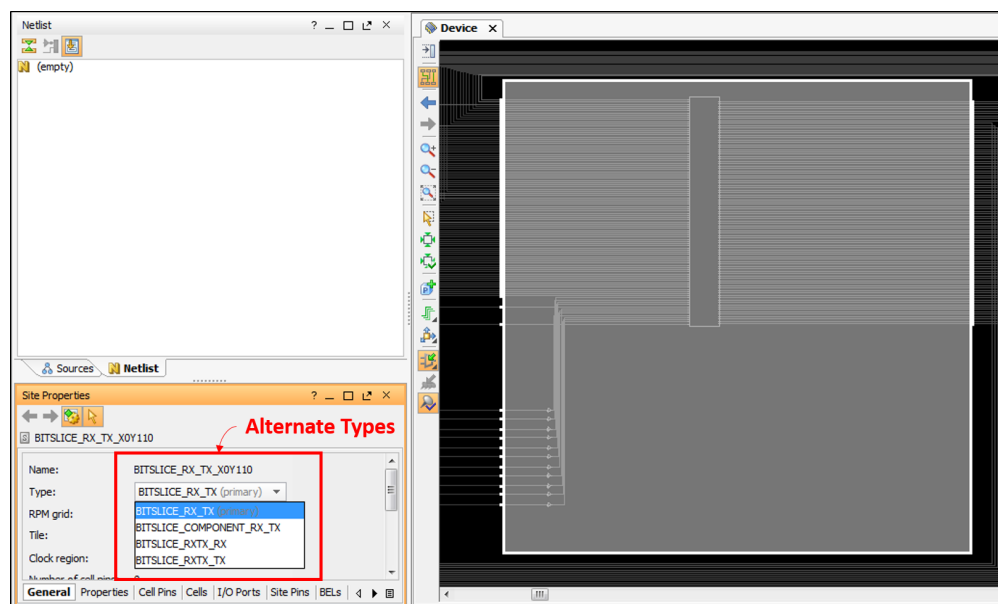

Figure 25: Vivado GUI showing alternate types for a BITSlice.RX.TX site.
- A list of **alternate types** for each site. Each physical site on the device has an associated default type. Some sites, however, can be configured to be one of many types. An example for an UltraScale BITSlice.RX.TX site is shown in Figure 25. As the figure shows, a BITSlice.RX.TX site can also be configured to be of type BITSlice.COMPONENT.RX.TX, BITSlice.RXTX.RX, or BITSlice.RXTX.TX. RapidSmith2 parses the alternate site information from the XML and applies it to the corresponding `Site` data structure. This allows users to change site types based on what they need.